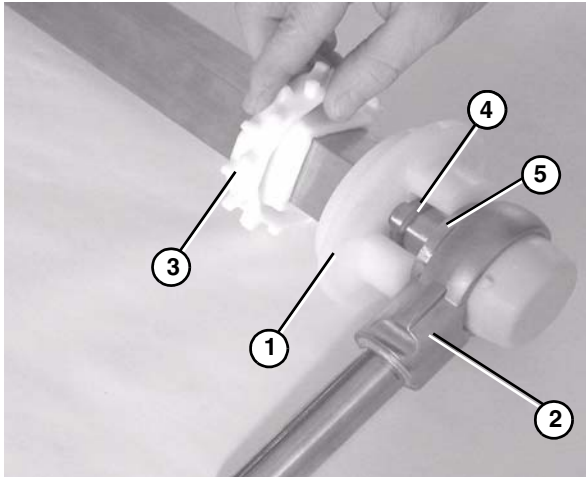

Figure 75
1. Attach a flanged puck (**Figure 75, item 1**), an O-ring (**Figure 75, item 4**), a washer (**Figure 75, item 5**) and a bearing shaft assembly (**Figure 75, item 2**) to the supporter end of the drive spindle.
2. Slide the first sprocket (**Figure 75, item 3**) onto the drive spindle.